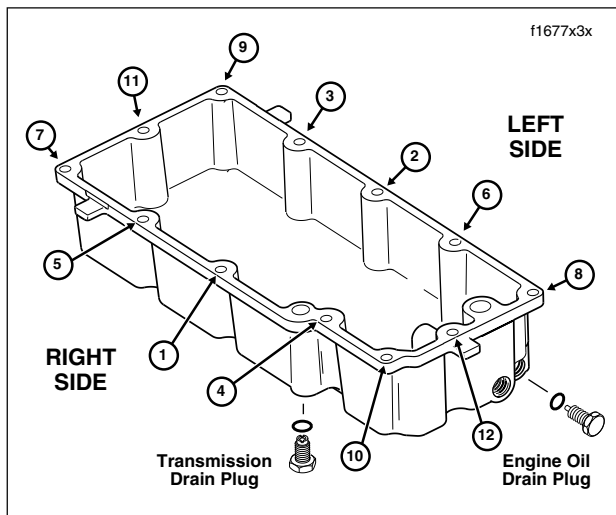

Figure 7-44. Oil Pan Torque Sequence
1. See Figure 7-44. Remove both the engine oil and transmission lubricant drain plugs from the oil pan. Drain the fluids into suitable containers.
5. Tighten the oil pan bolts to 84-108 **in-lbs** (9-12 Nm) following the numerical sequence shown in Figure 7-44.